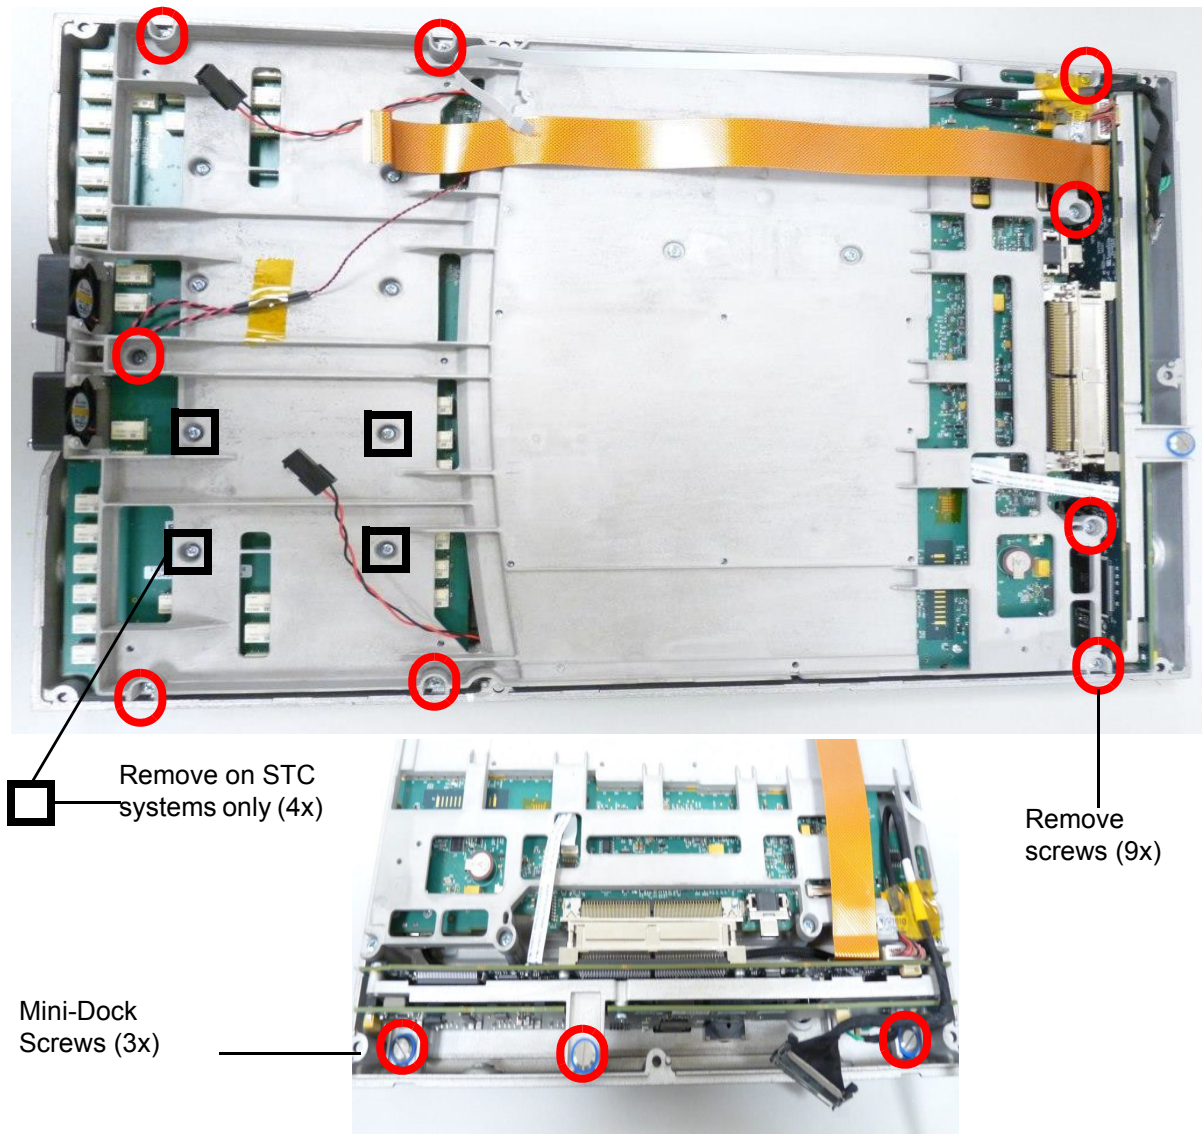

Figure 6.10 Back Enclosure Removal
- 1 Remove nine screws plus three securing the Mini-Dock as shown in Figure 6.10.
- 2 For systems that have the STC option, also remove the four screws securing the STC cover indicated by the black squares in Figure 6.10. This step can be ignored if the system has a DTC.